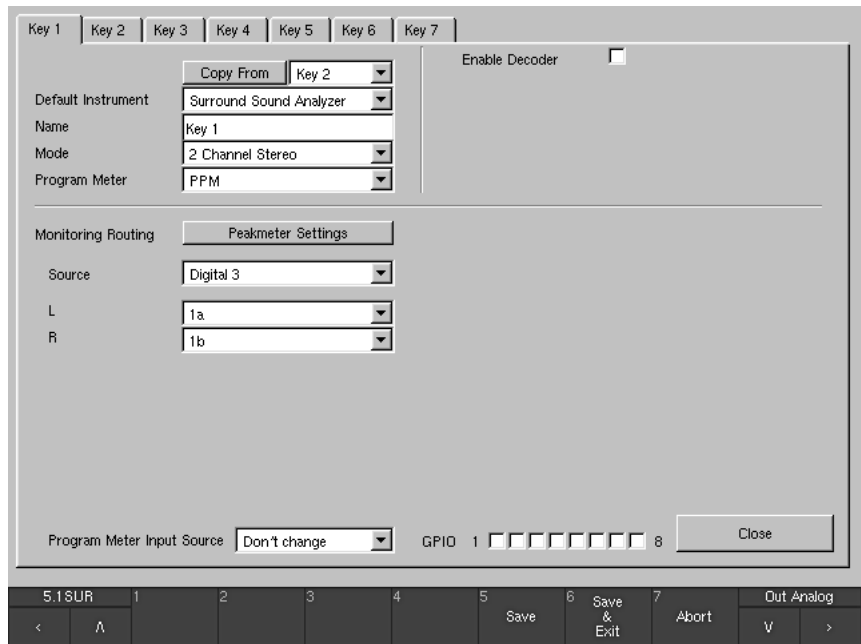

Fig. 6-18: Global Monitoring Input Routing menu page with „2 Channel Stereo“ mode selected
- **Copy From** (see Figs. 6-18 to 6-24)
- **Default Instrument** (see Figs. 6-18 to 6-24)
- **Name** (see Figs. 6-18 to 6-24)
- **Mode** (see Figs. 6-18 to 6-24)